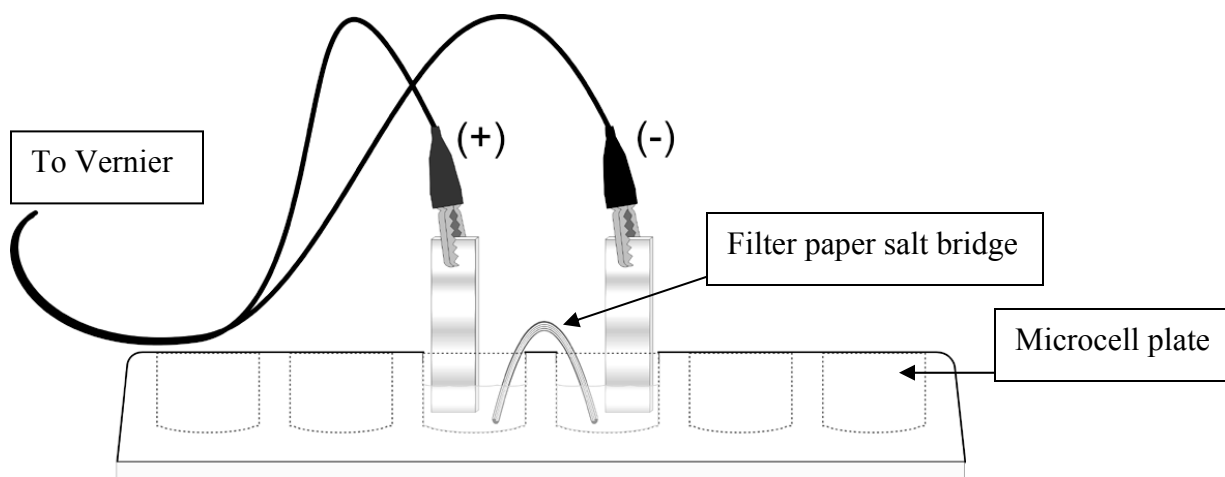

Figure 3. Galvanic cell apparatus for Part B.
You will then construct a series of three galvanic cells combining the zinc half-reaction with three different metal half-reactions (Cu, Fe and Pb). You will measure the cell potentials, E°_{cell} , using a Vernier voltage probe as shown in Figure 3. You will use 1.0 M solutions for both half-cells, so $Q = 1$ and $\ln Q = 0$ for the reaction. Thus the cell potential measured will be the same as E°_{cell} as evident from the Nernst equation (6). You will then use your
- Wet a 2–3 inch long strip of filter paper with KNO_3 solution. Remove excess liquid gently (the paper easily rips when wet!) by blotting it on a paper towel and fold the paper into a U-shape; this will serve as your salt bridge. Place the salt bridge so that it will be immersed into each of two solutions in adjacent wells of a 12-well microcell plate (see Figure 3 below).